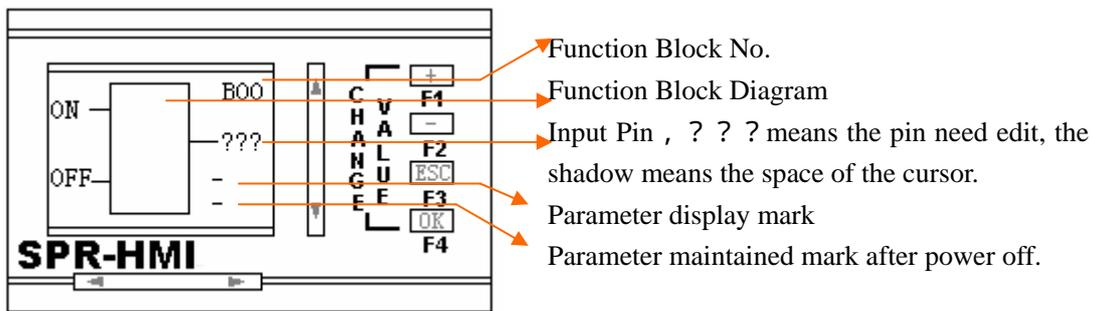
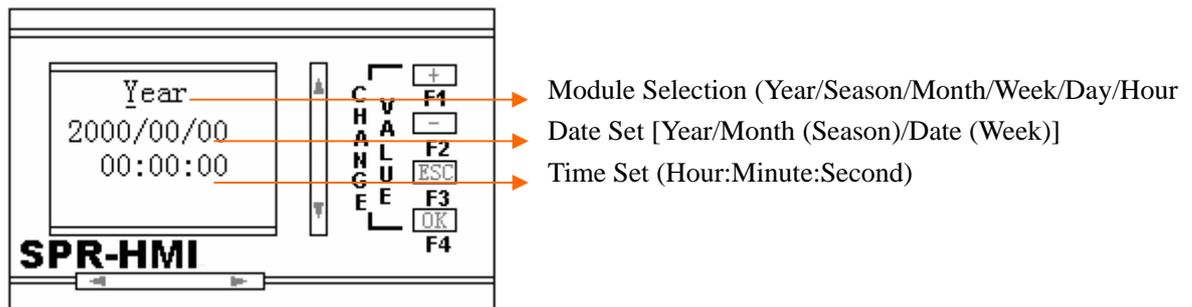
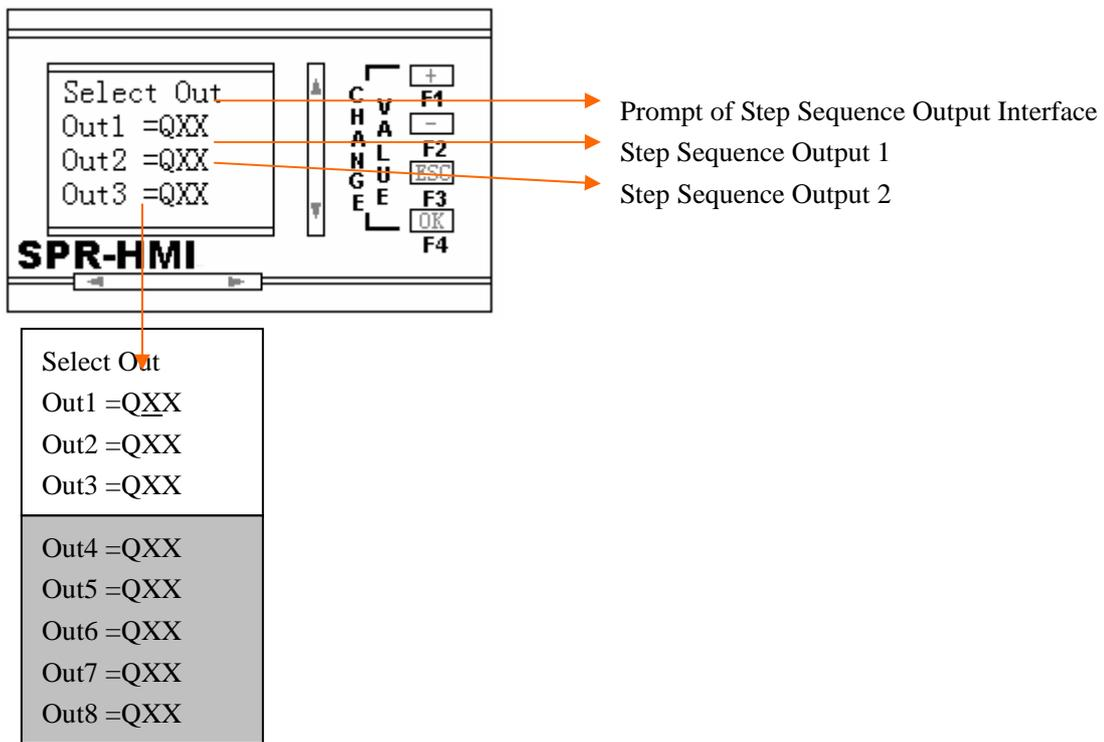

Fig. 10.31 Function Block Edition Interface
Fig. 10.32 Clock Time Edit Interface
Fig. 10.34 Step Sequence Output Edit Interface
1. Select the function. In Fig. 10.7, move ">" before 17 SCHD and press OK to enter Fig. 10.8. Move ">" before YES and press OK key to enter Fig. 10.31, Function Block Edition Interface.
In Fig. 10.31, B00 is the sequence No. of the function block, which is produced automatically in programming and is not able to be edit. The ON of the left side means the space to modify the ON date and the OFF of the left side means the space to modify the OFF date.
3. Select and Edit Point ON: The cursor “ ” will also appear in M00. It is need to edit the ON time. Press OK key and cursor will change from “ ” to “_”. Press LEFT, RIGHT key, the cursor will be moved under OFF. Press UP, DOWN key, the cursor will be moved under ON. Now the cursor is “_”. Press OK key, Fig 10.32, Clock Time Edit Interface will be displayed.
In Fig. 10.32, “_” is the cursor. The space of the cursor can be changed via UP, DOWN, LEFT, RIGHT and the data or module of the cursor can be changed via +, -. In Fig. 10.32, change the YEAE into DAY and change time to 6:30, thus the time of ON is set. Press OK key to return to Fig. 10.31. But at this time the cursor will be “ ” and be on the “O” of ON. The input of this point can be selected via +, -. If “-” is selected, which means this point is not used. If this point is needed, select “On” and press “OK” key, change cursor to “_”. Then select and edit other points.
finished via the above steps. Press ESC, all the points are edit correctly and return to Fig. 10.7. Otherwise the wrong points will be displayed in Fig. 10.31 as “???”. And the cursor will be in the first “?” as the form of “ ” and wait for the edition. And the mistakes at this space including the following three points:
Select and Edit B01: Via the above procedure, select function block 17SCHD. Through the confirm in Fig. 10.8, it will enter Fig. 10.31, function block edition interface. But the B00 is changed into B01, which means the function block edited is the second function block. Using the methods when editing B00, edit B01 as M01, ON time as 17:30, OFF time as 21:30. After edition, press ESC key to return to Fig. 10.7.
Select and Edit B04: Using step 1 to select function block 22 SSEQ. Through the step 2, edit the first input port of B04 as M02. After confirmation, through step 3, move cursor to the second input port and edit it as LO. Through step 3, move cursor to the first output port “OUT” at the right side. At this time the cursor will be “_”. Press OK key to enter Fig. 10.34, Step Sequence Output Edit Interface.
In Fig. 10.34, Step Sequence Output Edit Interface, “_” is the cursor. The step sequence can be edit via UP, DOWN, and the space of the step sequence can be edit via LEFT, RIGHT. Notes: Q cannot be selected. Only XX can be selected and edited. Change the data of the cursor via +, -. Change QXX to the output we needed. In edition procedure, please be attention the following notes. 1. When editing the step sequence, the output of the above step sequence cannot be as QXX. It must be on detailed output. If we want to edit Out 4 =QA3, then the output port of Out1, Out2, Out3 cannot be QXX. They must be the detailed output, for example, Out1=QA0, Out2=QA1, Out3=QA2 and so on. 2. To be convenient to the user, we design the menu as circle menu. For example, in Fig. 10.31, if the cursor in the second line of the WRT (caused by the first action prompt). The symbol of the above step sequence is Out1. Now Out8 is needed to be edited. Pressing DOWN eight times is too trouble. Directly press UP key one time. The cursor will be on Out8 directly and user can edit.
According to the above methods, edit the eight outputs of the step sequence as Out1 =QA0, Out2=QA1, Out3=QA2, Out4 =QA3, Out5 =QA4, Out6 =QA5, Out7 =QA6, Out8 =QA7. Press OK or ESC key. If the output ports of the eight step sequence are not as the same as the outputs of the above function blocks. It will enter the function edition interface. Otherwise, the same output ports will be displayed in Fig. 10.34 as Q?? and the cursor will be on the first ? for the user to finish the edit. In function block edition interface, through step 6 to return to Fig. 10.7, thus the edition of B04 is finished.